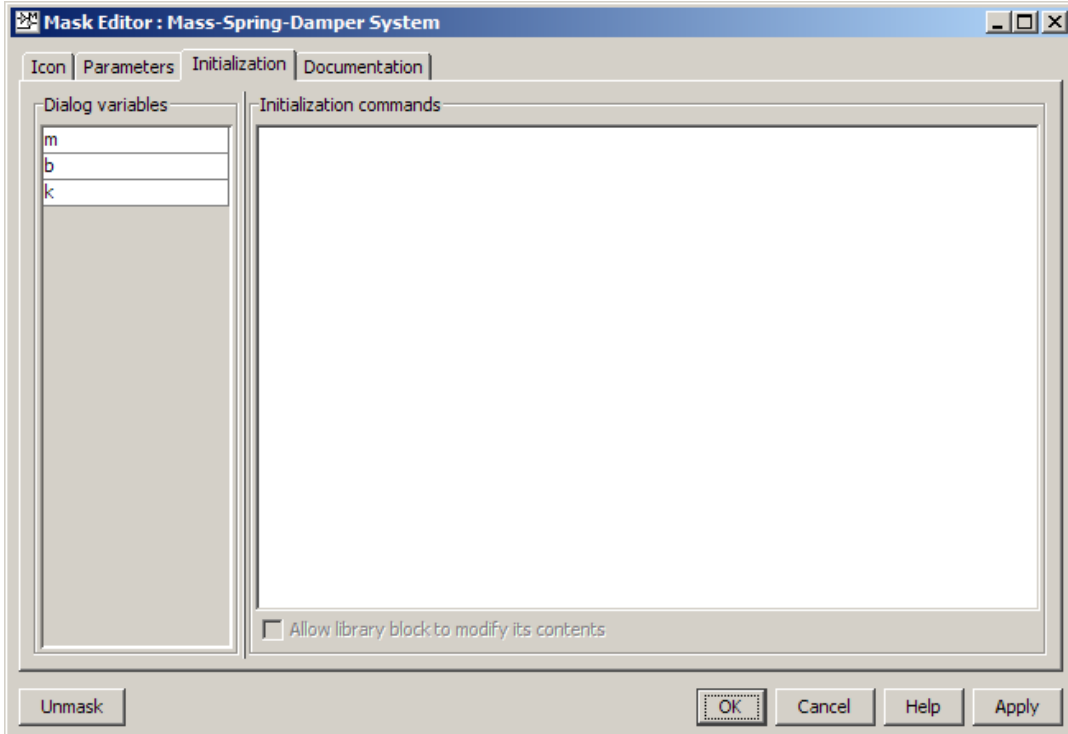

Figure 13 Initialization tab
- Initialization tab: see **Fig. 13**.